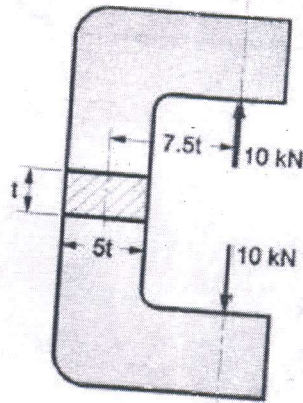

Fig. 8
- c) A 'C' frame subjected to load of 10 kN is shown in figure 8. It is made up of gray cast iron with allowable stress of 120 N/mm^2 . Determine the dimensions of cross section of frame. [6]